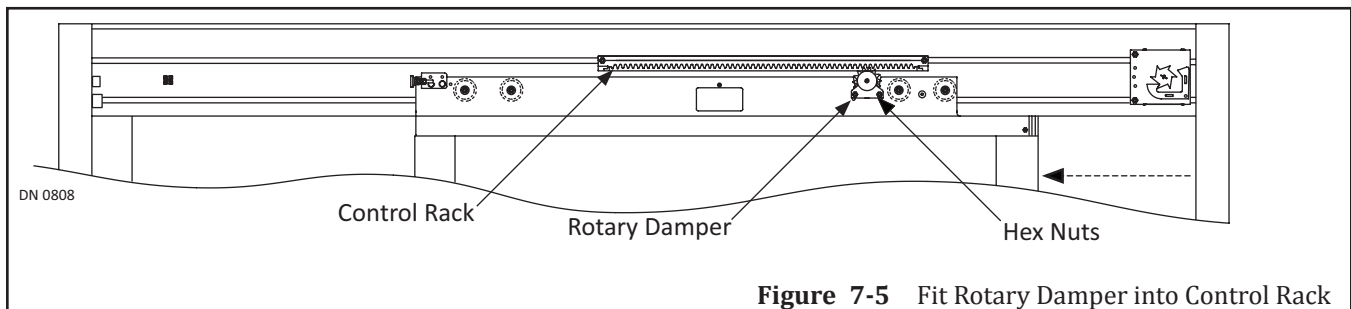

Figure 7-5 Fit Rotary Damper into Control Rack
1. Manually slide open the door until the Rotary Damper is directly underneath the Control Rack. Please see Figure 7-5.
2. Go to the Rotary Damper. Loosen (2) #10 hex nuts with a 3/8 inch wrench.
4. Tighten (2) #10 Hex nuts that were just loosened to secure the Rotary Damper in place. Do not overtighten.